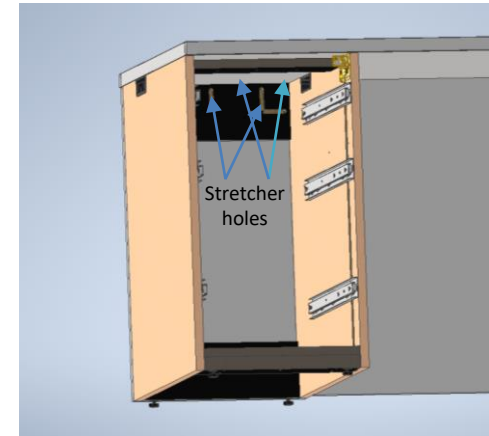

Figure 3
2. Insert #8 x 1-1/2" screws from the bottom through the holes located on the stretchers in each pedestal (Figure 3)